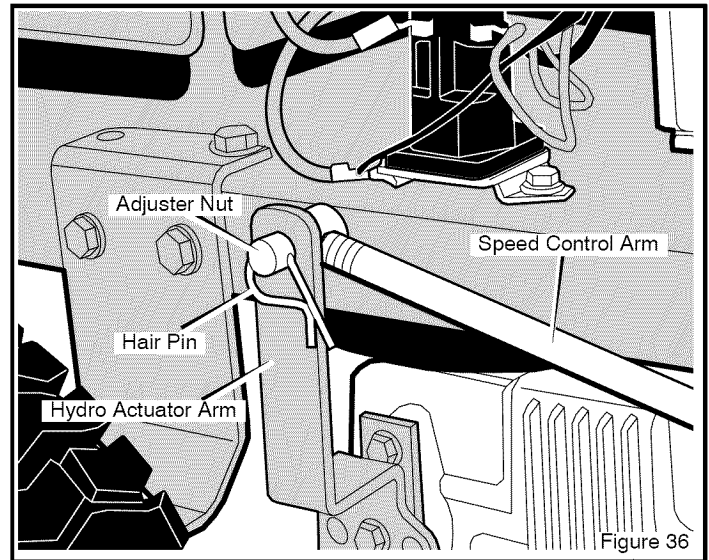

Figure 36
2. Remove the **hair pin** from the **adjuster nut** (see Figure 36).